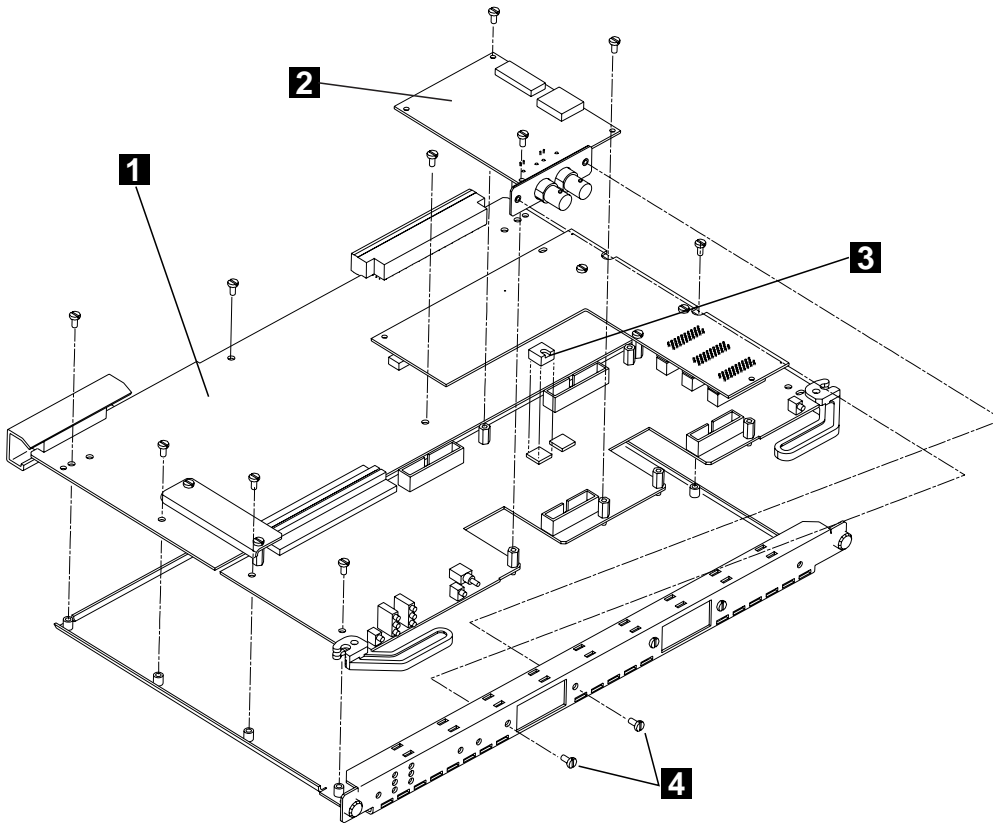

Figure 9. Installing an I/O Card on the A2-WAN Module
To install the E3 I/O card on the A2-WAN module motherboard, follow these steps, referring to Figure 9 on page 26:
- b. Remove the ten screws that secure the motherboard to its frame (see **1** on Figure 9 on page 26).
- **7** Place three of the screws that came with the I/O card into the metal posts and tighten them with a screwdriver (see **2** on Figure 9 on page 26).
- **8** Install the VPD PROM chip on the motherboard, making sure that the notch is aligned with the front of the module (see **3** on Figure 9 on page 26).
Insert the remaining two screws that came with the I/O card into the front panel to secure the I/O card, and tighten them with a screwdriver (see **4** on Figure 9 on page 26).